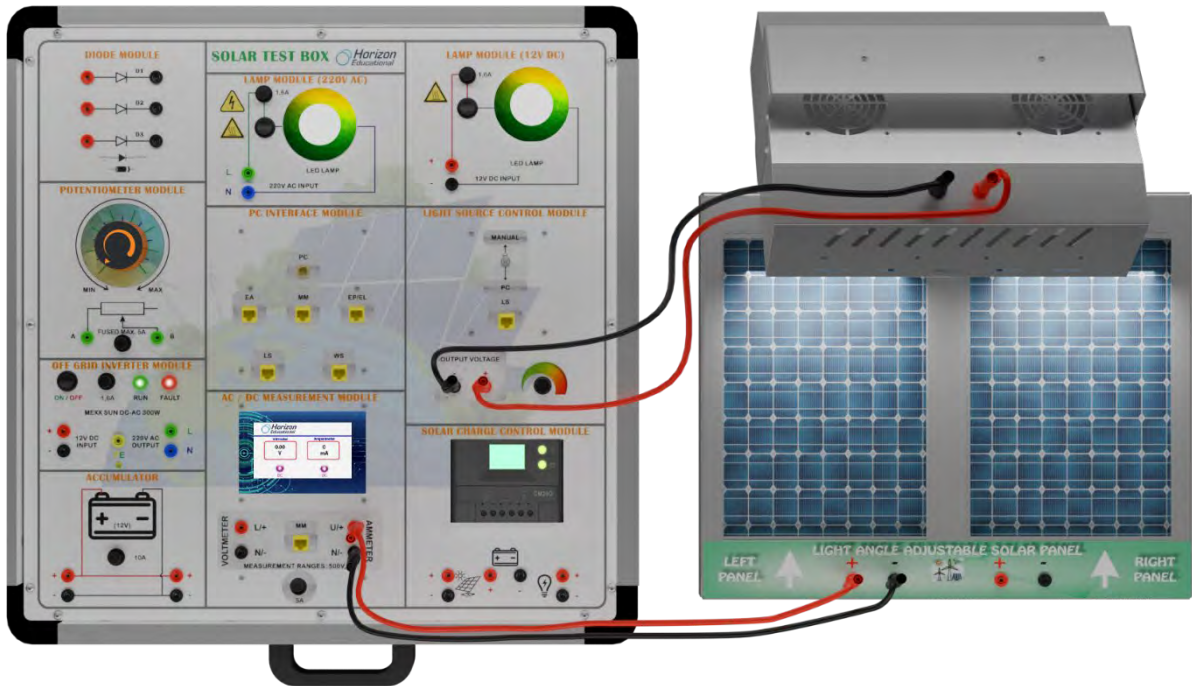

Figure-18. Installation Image of Examination of the No-Load Outputs of the Photovoltaic Panel Depending on the Sun's In-Day Movement (For Current)
1. Set up the connection as specified in Figure-18. Ensure a consistent level of lighting in the laboratory by maintaining an average scenario. Any changes to the positions of the lamps or curtains may affect the experimental results.